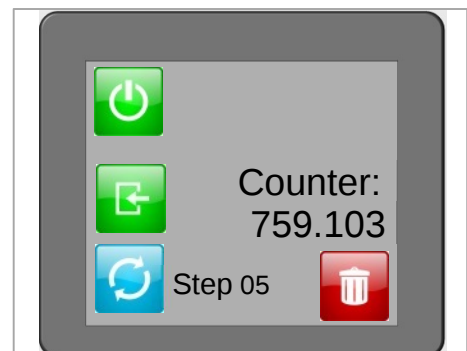

Fig. 7.9
- + second step (Fig. 7.9) for crimping and moving back into the final position.